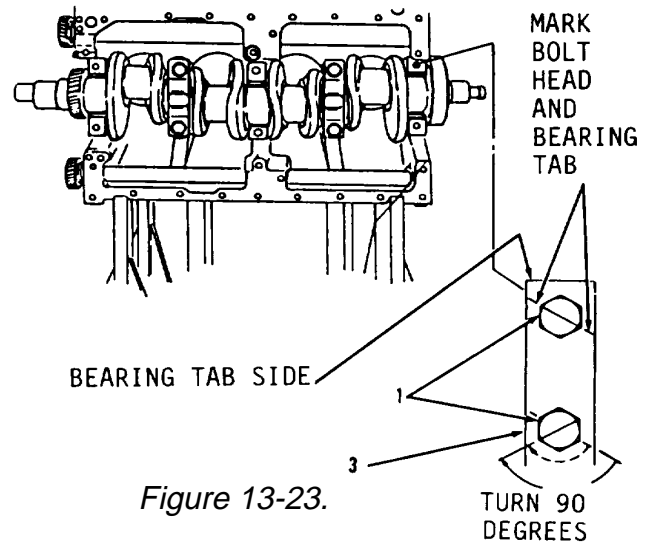

Figure 13-23.
4. Tighten three of six bolts (1) at bearing tab side of three bearing caps (3, Figure 13-23) to 30 ft-lb torque.
5. Tighten three of six bolts (1) opposite bearing tab side of three bearing caps (3) to 30 ft-lb torque.
6. Mark six bolts (1) and three bearing caps (3) with chalk.
7. Tighten three of six bolts (1) opposite bearing tab side of three bearing caps (3) a further 90 degrees, using chalk mark as an aid in estimating how far to tighten bolts (1).
8. Tighten three of six bolts (1) at bearing tab side of three bearing caps (3) a further 90 degrees.